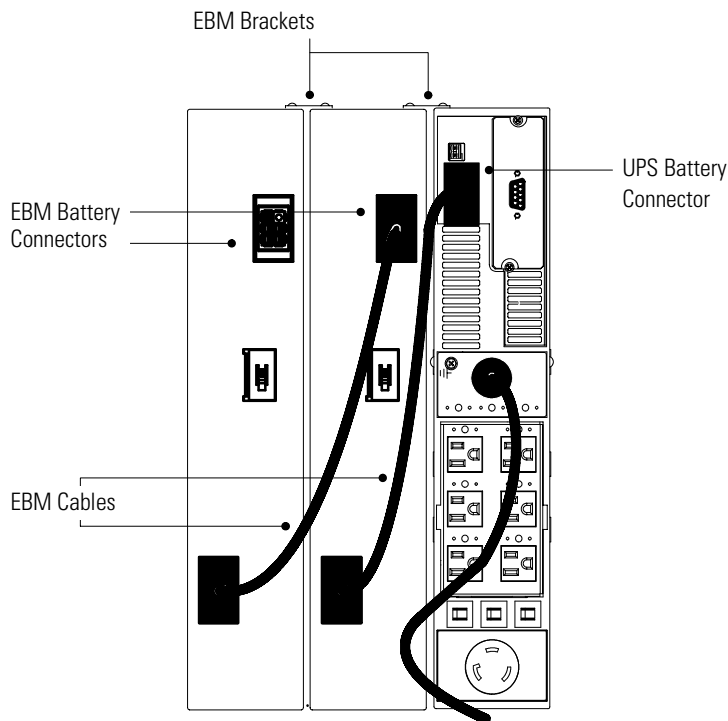

Figure 27. EBM Connections (120V Model Shown)
5. Plug the new EBM into the UPS as shown in Figure 27. Plug the other end of the EBM cable into the EBM battery connector.